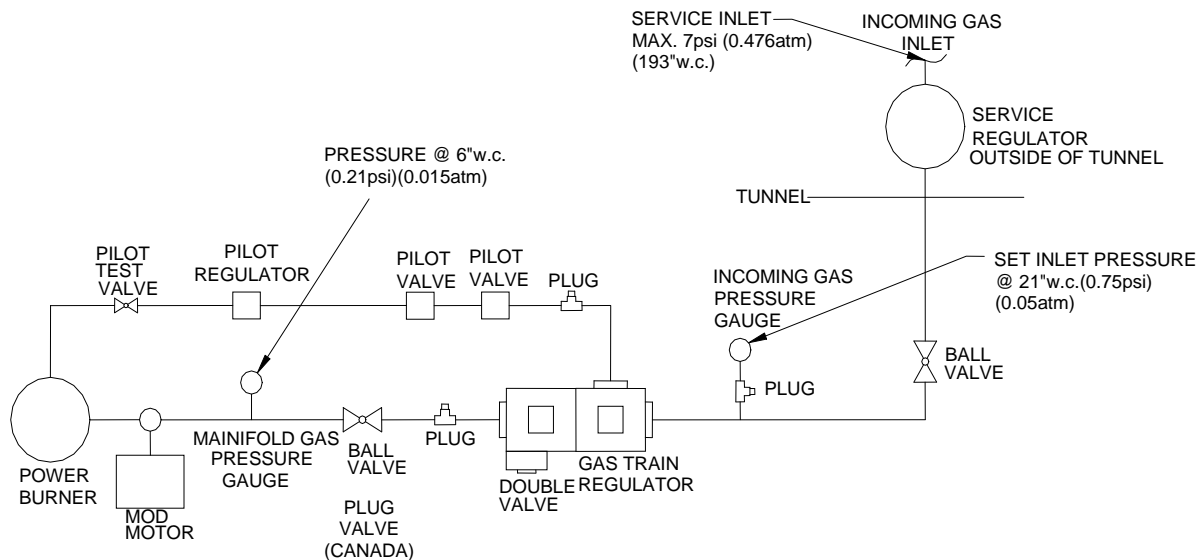

Figure 3
3. Screw regulator on with arrow on casting pointed **downward** (Figure 3).